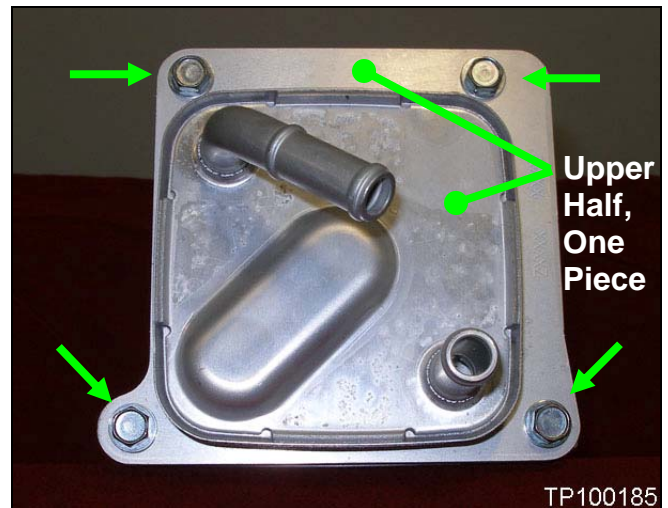

Figure 2
2. Remove the four (4) bolts, and then remove the upper half of the oil cooler. See Figure 2.